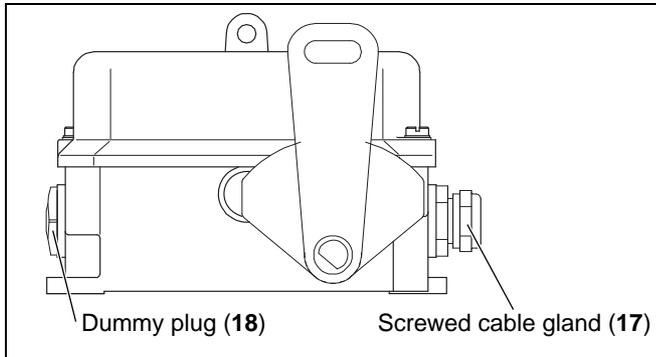

Fig. 5-1: Scope of delivery
The pull-rope emergency stop switches are delivered ready to operate. The screws for mechanical fastening are not included in the scope of delivery. One Screwed cable gland (17) and one Dummy plug (18) are included in the scope of supply (see *fig. 5-1*).